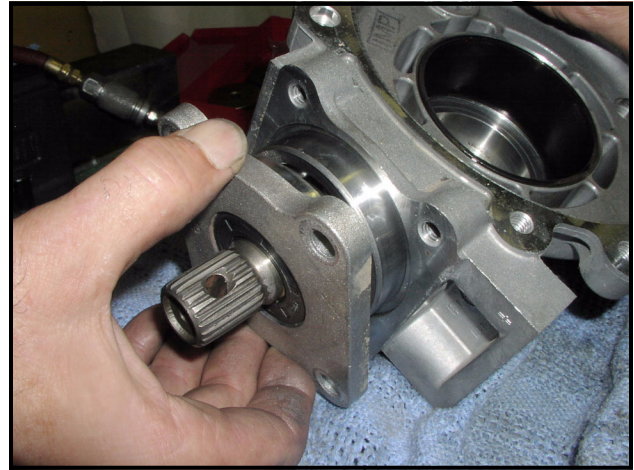

Figure 9-25 Remove Input Cover Plate
11. Gently slide the cover plate and seal off of the splined shaft of the pinion gear (**Figure 9-25, Page 9-9**).